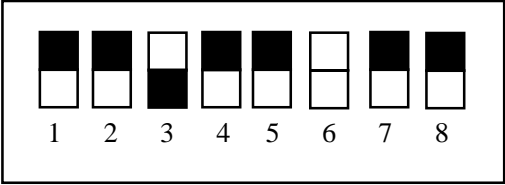

Figure 8.2 DIP Switch
① Set SW3,6 of the DIP switch as shown in Figure 8.2 before turning the equipment power on.